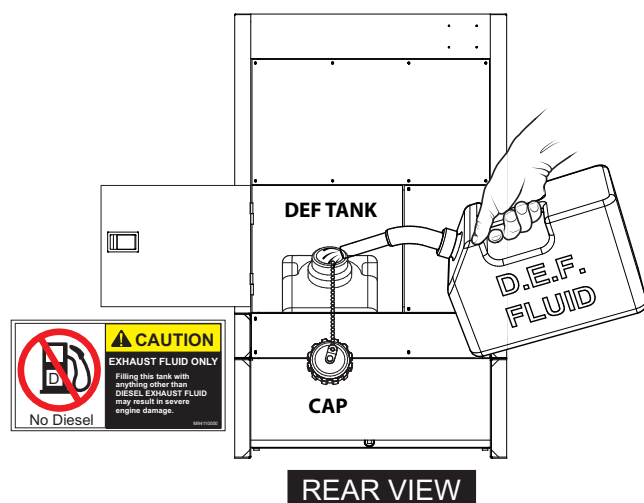

Figure 33. Filling The DEF Tank
2. Remove the **filler cap** from the DEF tank (Figure 33).